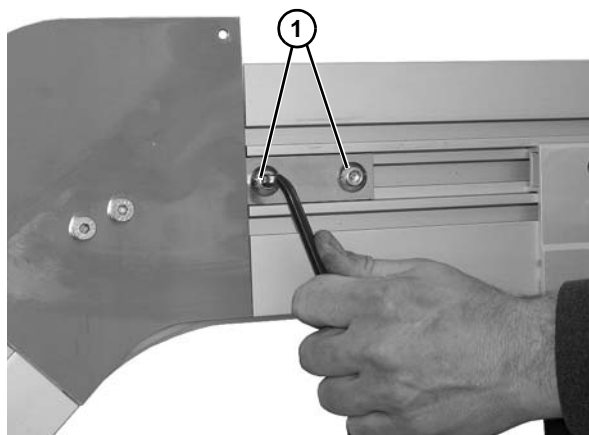

Figure 107
4. Remove two socket head screws (**Figure 107, item 1**). Repeat on other side.